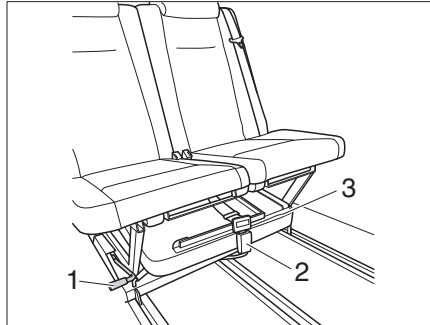

Fig. 2 Moving the seat bench
- Open the belt buckle (Fig. 2,2) and remove the (Fig. 2,3) bed extension.
- Pull the positioning lever (Fig. 2,1) and push the bench seat forward.